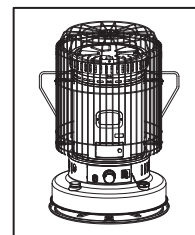

Fig.9
G) Now your heater is completely assembled: (Fig.9)